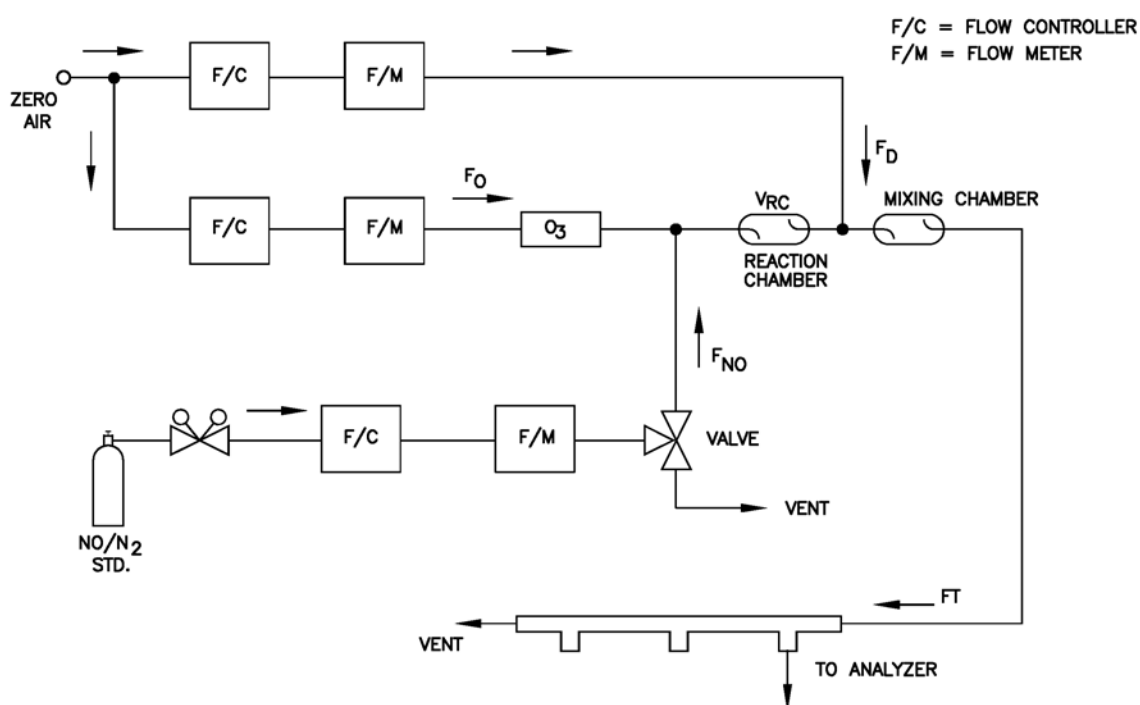

Figure 4-1. GPT System
1. Assemble a dynamic calibration system such as the one shown in Figure 4-1.